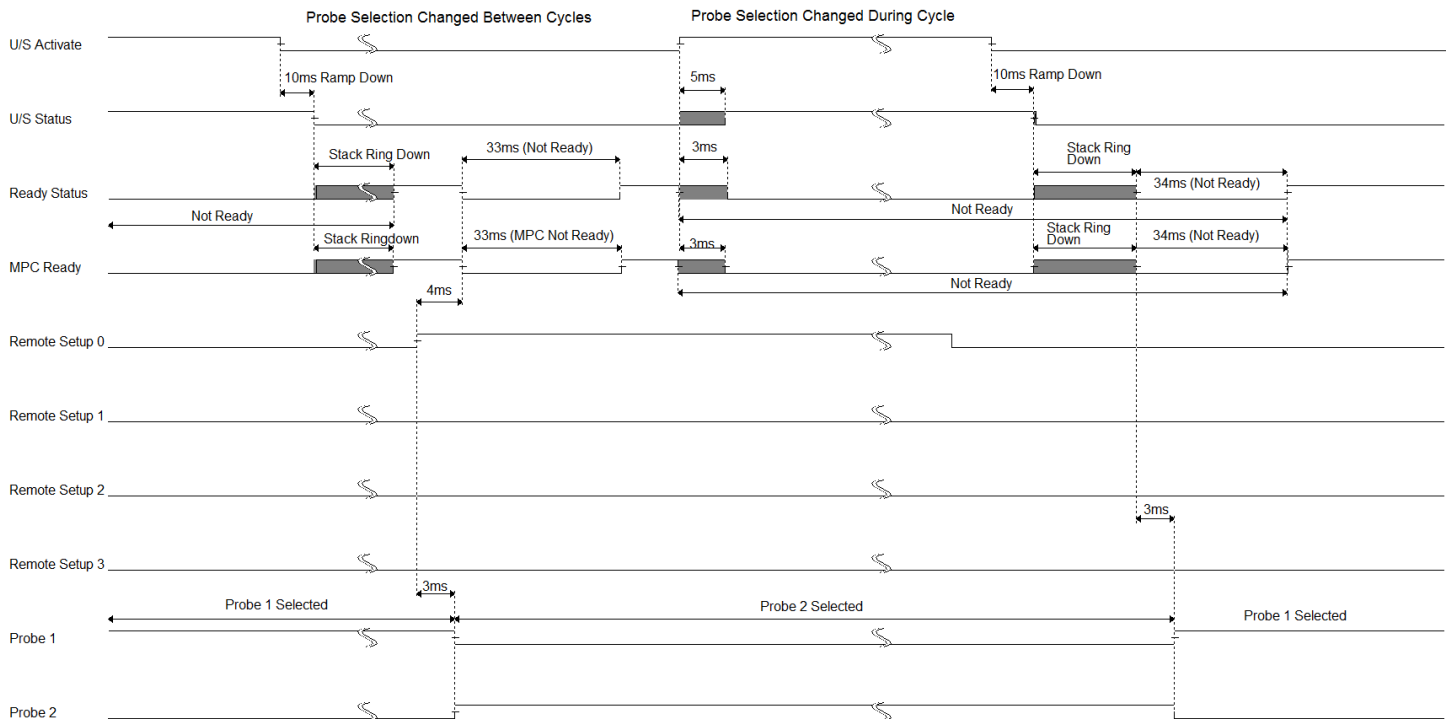

Figure 4 AiM with MPCQ Weld Cycle (Weld-by-Automation)
**Probe selection changed between weld cycles:** Although the probe selection can be changed at any time this method is the safest and most predictable. The PLC program should monitor the MPC Ready output and when it becomes active change the probe selection using the Remote Setup inputs. This will insure that the stack ring down from the previous cycle is finished. After a delay of 4ms, the MPC Ready output will change to inactive (low in this case) again and stay that way for 33ms. See Figure 4 where Remote Setup 0 changes from low to high. The PLC must monitor the MPC Ready output and not turn on the U/S Activate input until MPC Ready is active.
**Probe selection changed during a weld cycle:** Alternately the Remote Setup inputs can be changed during the weld cycle. The MPC circuitry will not select a new probe when the MPC Ready output is not active. As shown in Figure 4, Remote Setup 0 input is changed to inactive before the weld cycle completes. Once the stack ring down completes the relays switch so that probe 1 is selected almost immediately, but the relay takes up to 8ms to settle. The MPC Ready output will remain inactive for 33ms after ring down completes. The PLC must monitor the MPC Ready output and not turn on the U/S Activate input until the MPC Ready signal is active.